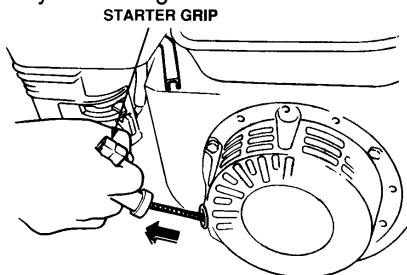

Figure 13. Starter Grip
- Grasp the starter grip (Figure 13) and slowly pull it out. The resistance becomes the hardest at a certain position, corresponding to the compression point. Pull the starter grip briskly and smoothly for starting.